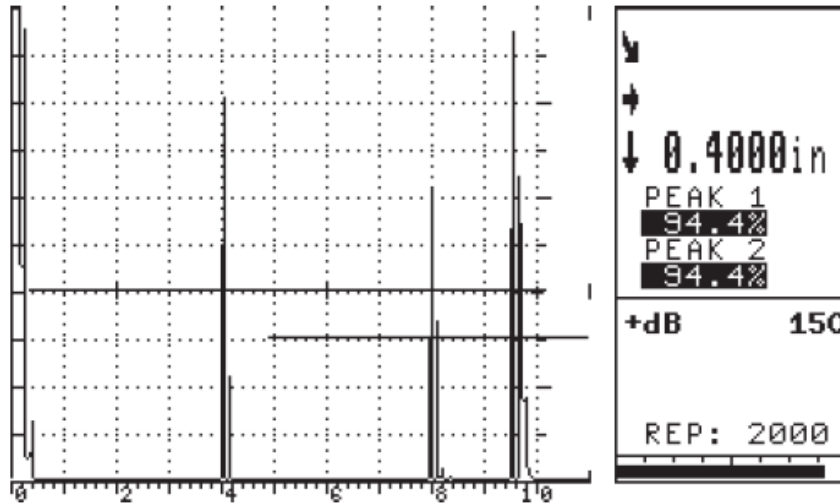

Figure 5-33
12. Place the transducer on the 0.400 inch step. Verify proper Gate1 and Gate2 positioning, as above (a slight adjustment of the Gate2 position may be required to prevent triggering on unwanted signals), press the THK CAL softkey, and rotate the SmartKnob until the THK CAL value for CAL PT2 reads 0.400 inch. Press ENTER to log this value. (Please refer to **Figure 5-33**).